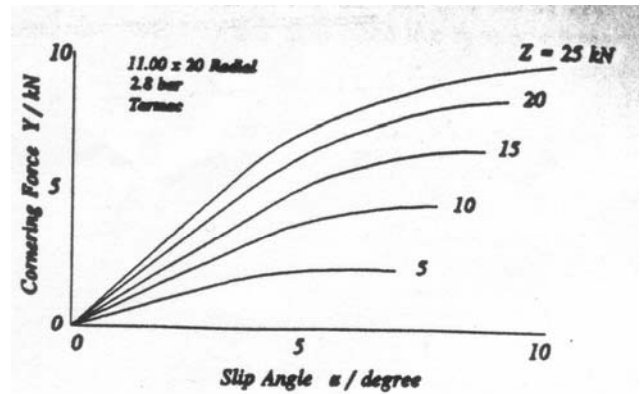

Fig 5. Relation between cornering force and slip angle
The relationship between lateral force and slip angle, shown in Figure 5, follows from this behaviour. Initially the graph is linear until adhesion starts to be lost, when it falls away is progressively towards a limiting value of lateral force. The limit of linearity will not normally be reached on dry roads, except under severe handling manoeuvres, and thus the initial gradient can be used to quantify the tyre response. This is known as the cornering stiffness (C), the lateral force to cause unit slip angle. It will be affected by many parameters principal of which are: